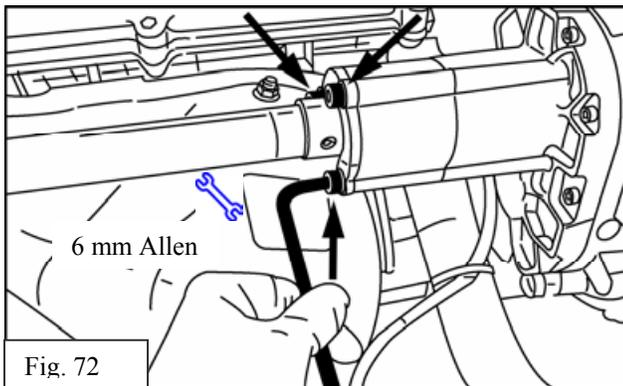
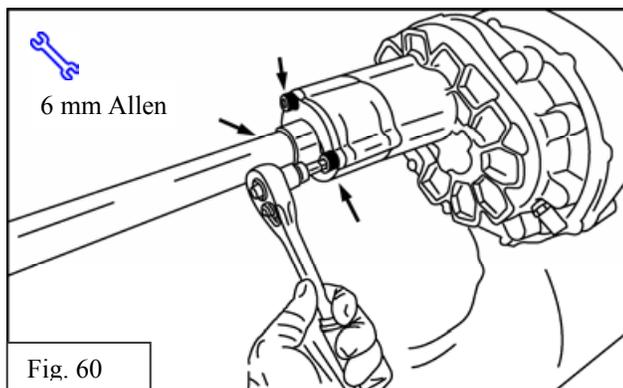

Fig. 72
Fig. 60
**Note:** If supercharger assembly is not aligned or “seated” properly, you must follow these steps. Temporarily loosen the three “horseshoe” bracket fasteners a few revolutions, as shown in Fig. 60. 6mm Allen wrench. Do NOT take the bolts out of their respective holes. **Then tighten the assembly in this order: First tighten the 3 “horseshoe” bracket fasteners Fig 72. NOTE: A wobble drive Allen wrench may be the preferred tool here. Then tighten the Alternator pivot bolt, then the front bracket bolt to cylinder head, then last the supercharger rear bracket bolts.**